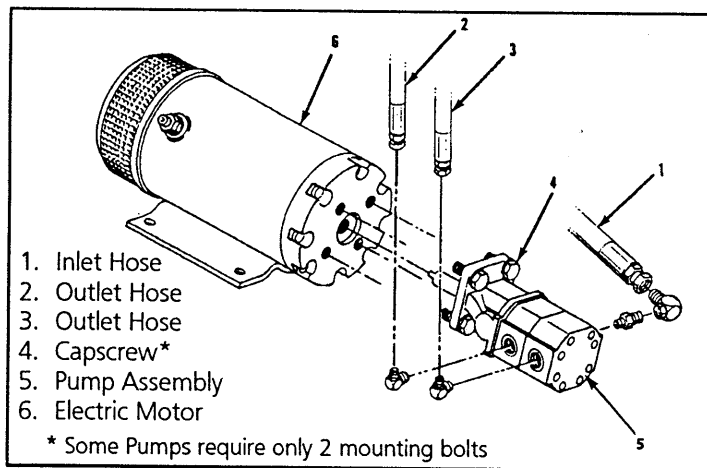

Figure 4-9: Hydraulic Pump
4.8 Hydraulic Pump (Figure 4-9)